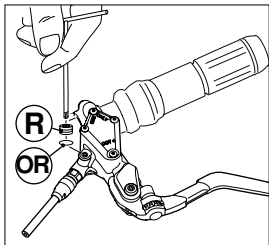

Fig. 14
- Unscrew the dowel **R** (Fig. 14) and remove the **OR** with great care.